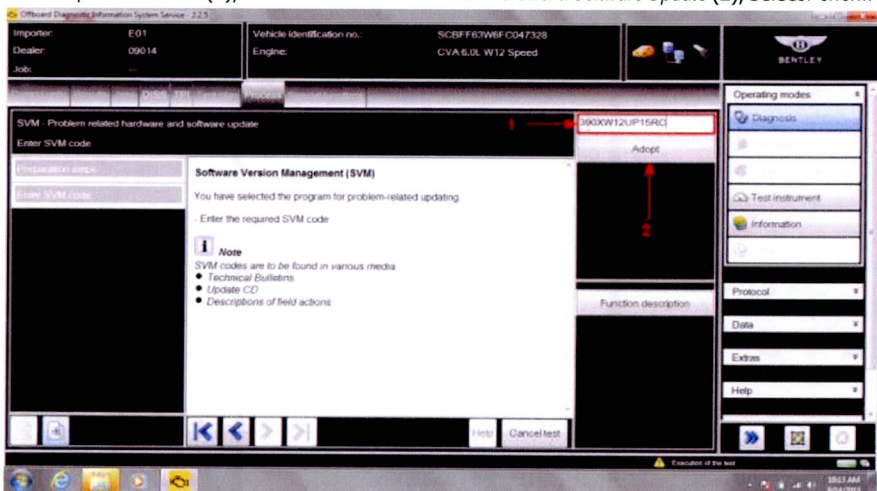

Figure 2
9. At SVM process screen enter (1) the specific SVM code **390XW12UP15RC** and then *Adopt* (2) (see Figure 2)